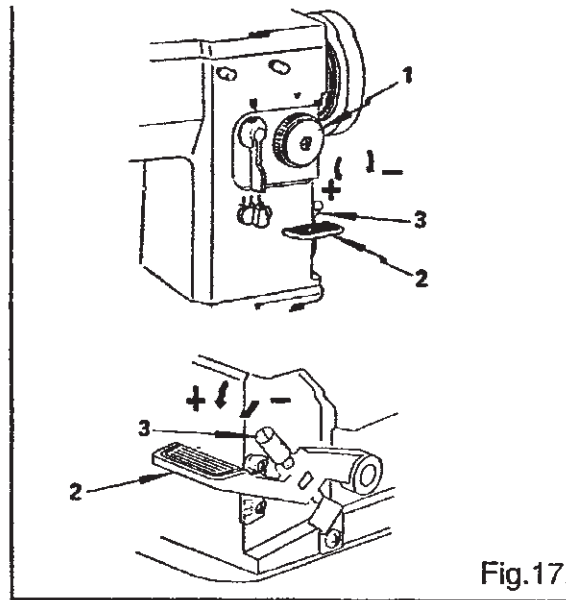

Fig.17.
13. ADJUST STITCH LENGTH, (Fig.17)
Push lever 2, Fig.17, down for reverse feed and release for forward feed.